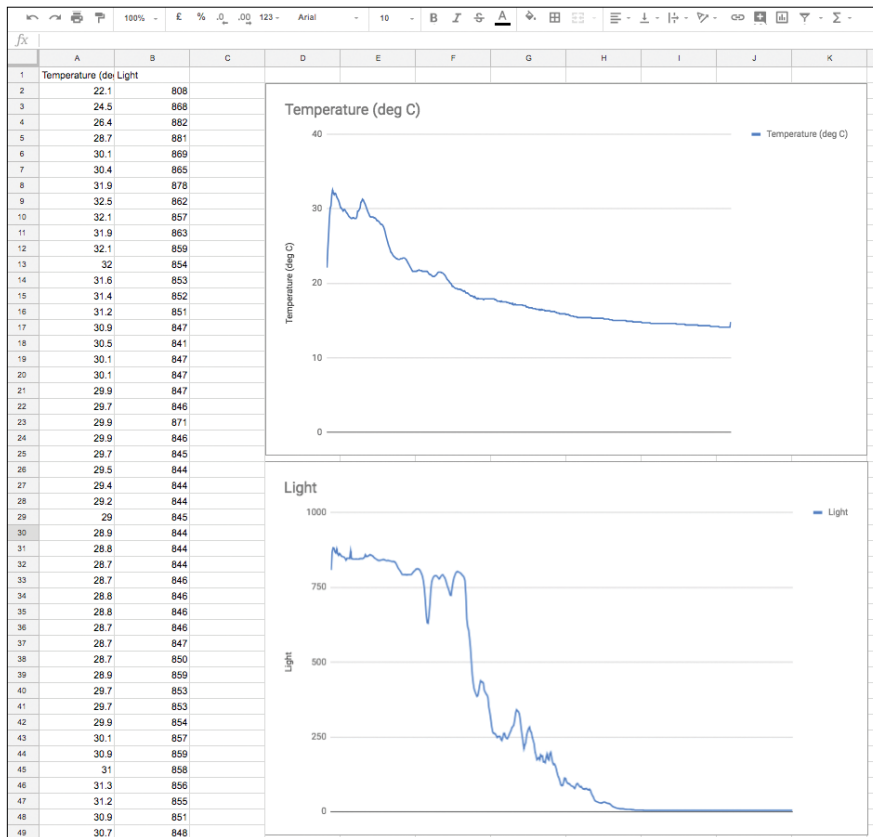

Figure 9-4: Charting temperature and light
- To make sense of the data, you'll probably want to import it into a spreadsheet and draw some charts like the one in Figure 9-4. See Experiment 7 in Chapter 5 for an example of importing data from the *data.txt* file into Google Sheets.
In Figure 9-4, the steep drop of the line in the light chart indicates the nightfall.